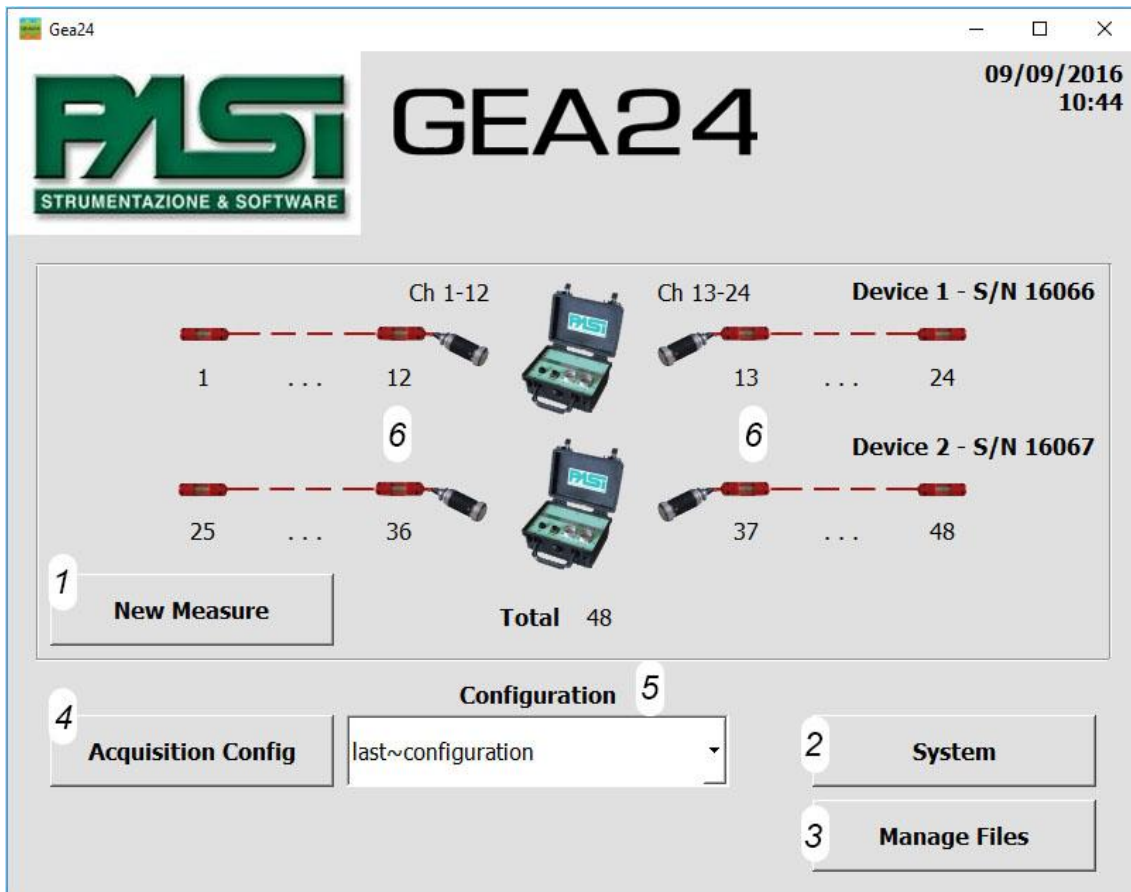

FIGURE 3 HOMEPAGE
Figure 3 shows the image of the homepage
With the dropdown menu (5) shown in Figure 3, the operator can select the template to use for acquisition configuration.
To open the System Configuration window, press the System button (2) in Figure 3.
To open the acquisition configuration window press "Acquisition Config" on the homepage (Button 4 on Figure 3).